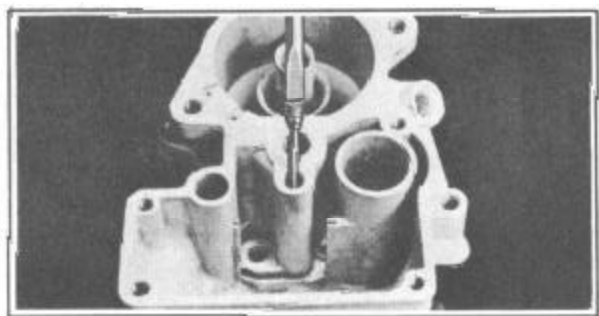

FIGURE 36
10. Install low speed jet assembly, Figure 36. (Be sure jet seats firmly in casting.)